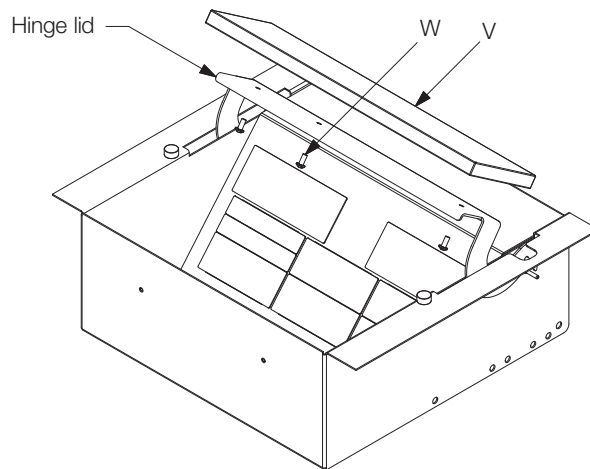

Fig. 06
- 4.1.1. Attach hatch lid (V) to power box hinge using fastener (W). (See Fig. 06)